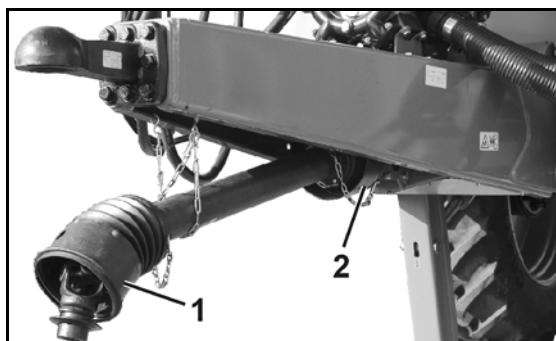

Fig. 12
- Fig. 12/...
(1) PTO shaft guard with supporting chains
(2) Machine PTO shaft guard